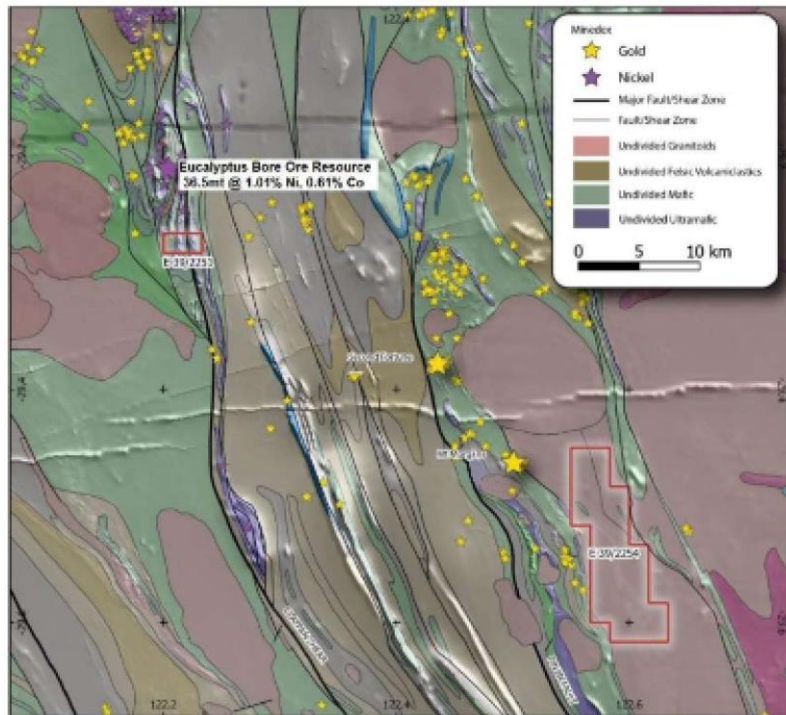

Figure 2: Geology of the Yundamindra Project
*"The team at Pure could not be happier with multiple drill hits returning results greater than 1% nickel, especially on the Company's maiden drill program. The Yundamindra Project continues to return promising nickel results that warrant further exploration which is prospective for Kambalda Style nickel (Figure 2).*
The Yundamindra Project consists of two tenements (E39/2251 & E39/2254) prospective for Kambalda Style nickel, and orogenic gold mineralisation (Figure 2). E39/2251 shares the same rock types and sits directly south, along strike, from the Eucalyptus Bore Ni-Co Project which has an Ore Reserve of 32.2 Mt @ 0.91% Ni & 0.06% Co. With respect to the gold potential, numerous prospects and historical workings occur both within greenstone and granite lithologies. Gold mineralisation is shear related and hosted by relatively high-grade auriferous quartz veins.